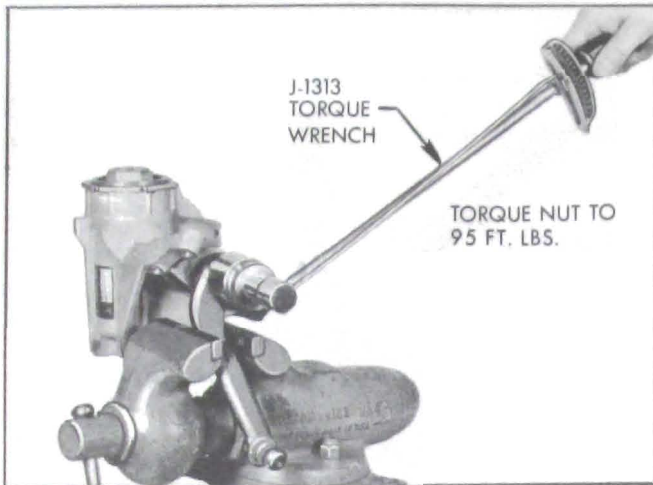

Figure 8-10—Torquing Pitman Arm Nut
5. Place pitman arm in vise as shown in Figure 8-10 and remove pitman arm nut and lock washer.
1. Install pitman arm, lock washer and nut on pitman shaft. Place assembly in vise as shown and torque nut to 95 ft. lbs. See Figure 8-10.